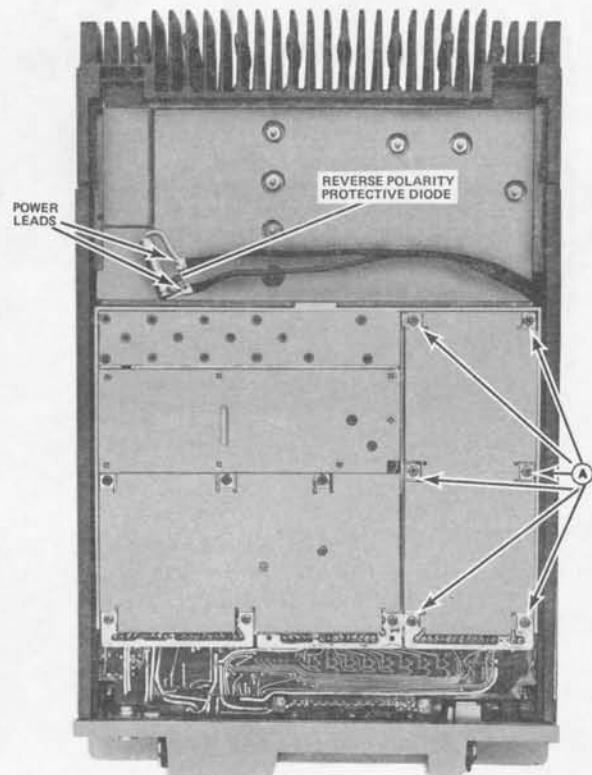

Figure 3 - Disassembly Procedure
3. To gain access to the bottom of the exciter board, remove the six screws (A) holding the exciter board and its bottom cover to the module mounting frame, and remove the bottom cover (See Figure 3).
2. Remove the six screws (A) holding the exciter board and its bottom cover to the module mounting frame. (Figure 3).